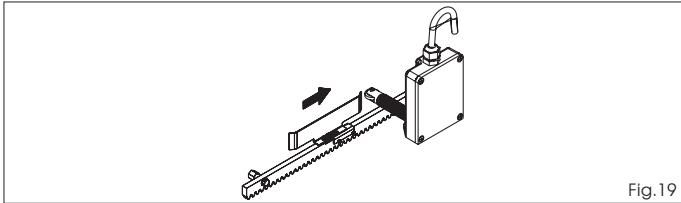

Fig.19
- 5) Allow the plate to slide over the rack in opening direction (Fig.19). As soon as the opening limit switch LED on the control board goes off, take the plate forward by about 20÷30 mm and secure it provisionally on the rack, using the supplied screws.